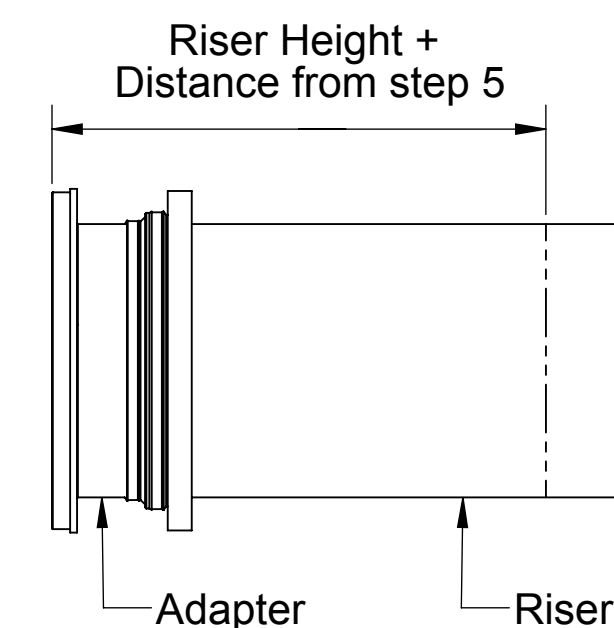

Figure 2
5. From the top of the adapter, measure your needed total riser height downward to the sidewall of the riser. Then, add 5" (for OS-35, OCT-35, PS-35, or OS-50, OCT-50, PS-50, LB-50, BB-50) or 6" (for OS-75, OCT-125, PS-125, CB-125, LB-125, BB-125 or OS-100, OCT-275, PS-275, CB-275, LB-275, BB-275). For example, if you have an OS-250 and need a 15-1/2" extension, you would measure down from the top of the adapter 21-1/2" (15-1/2" + 6" = 21-1/2"). See Figure 2.